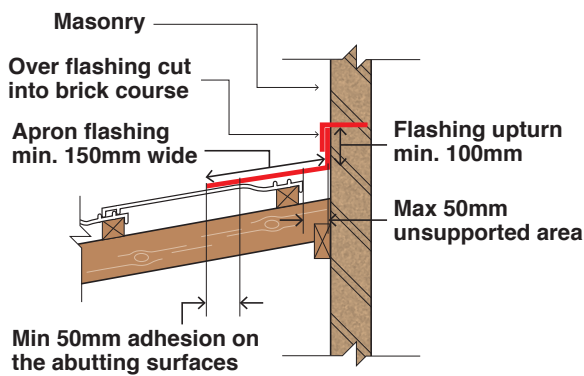
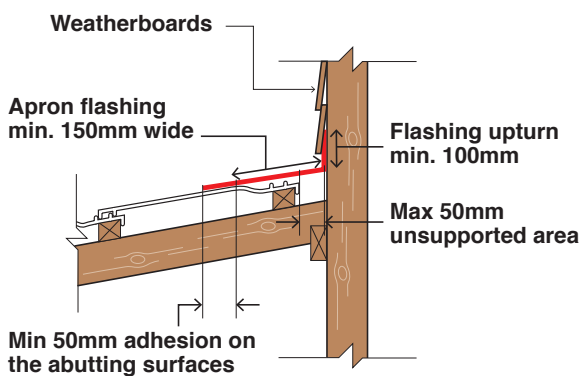

Fig 1.
Fig 2.
- » The adhesion area should not be less than 50mm on the abutting surfaces (Refer to Fig.1 & Fig.2).
- » The unsupported width should not be more than 50mm between support surfaces (Refer to Fig.1 & Fig.2)